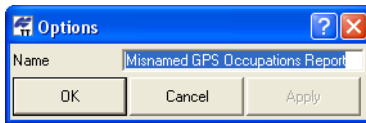

Figure 7-27. Item Options – Misnamed GPS Occupations Report
- Misnamed GPS Occupations Report – edit the name and click **OK** (Figure 7-27).